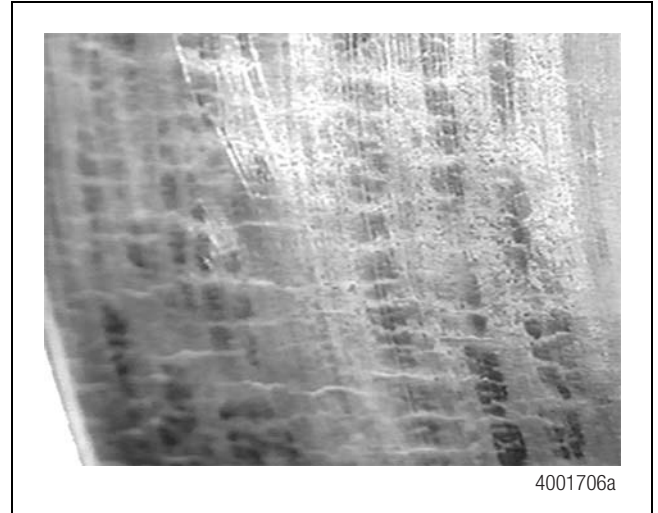

Figure 6.6
1. Uniformly over the entire surface. Figure 6.6.